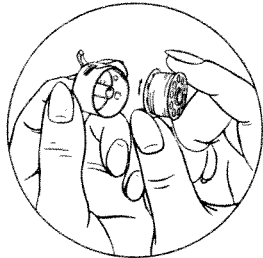

Fig. 5
Before threading the bobbin case, study Fig. 5, 6 and 7 to get a general idea as to how it is done.
1. Hold the bobbin case with your left hand and put the bobbin into the bobbin case with your right, leaving about two inches of the thread end unwound (Fig. 5). As the bobbin is being inserted in the bobbin case, the thread flow, you will note, is clockwise (Fig. 5).